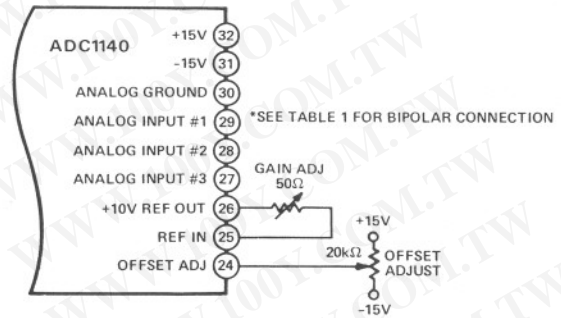

Figure 3. Offset and Gain Calibration
¹ Offset and gain error are adjustable to zero by means of external potentiometers. See Figure 3 for proper connection.
*If Internal Reference is used, Pins 25 and 26 must be connected together (see Figure 3 and the gain calibration section).
Initial offset and gain errors can be adjusted to zero by potentiometers as shown in Figure 3. Proper offset and gain calibration requires great care and the use of an accurate and stable voltage reference. The voltage standard used as a signal source must be very stable. It should be capable of being set to within $1\mu V$ of the desired value at both ends of its range. The potentiometers selected should be of the good quality Cermet type. Multi-turn potentiometers having ten to fifteen turns and $100\text{ppm}/^\circ\text{C}$ temperature coefficients will be adequate. The temperature coefficients contributed by these Cermet potentiometers will be less than $0.1\text{ppm}/^\circ\text{C}$.